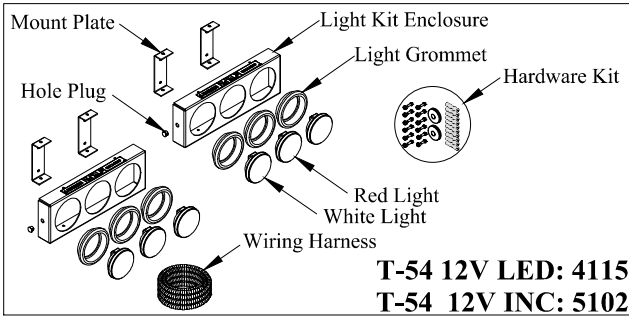

Figure 1: Part Identification: 3-light Kit.
- 3-light kit (Figure 1, Table 1)